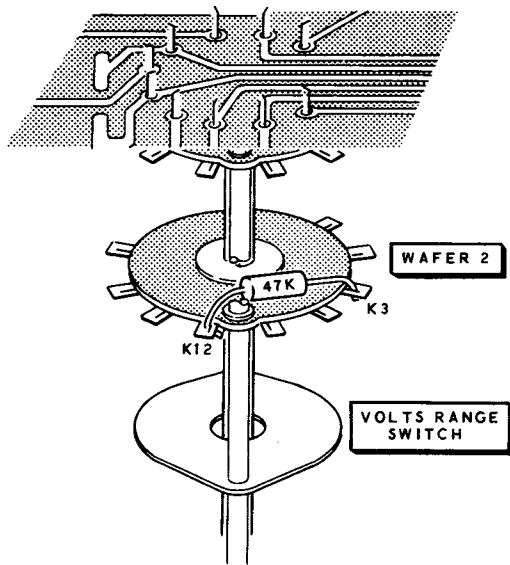

Figure 3
1. () Connect the positive test lead of the DC voltmeter to lug 3 on wafer 2 of VOLTS Range switch K. See Figure 3.
- 1A () Set the Solid State VOM test probe switch to the DC position; then touch the tip of the probe to lug 12 on wafer 2 of VOLTS Range switch K. (See Figure 3.) Carefully observe the meter reading on the 5 volt scale.